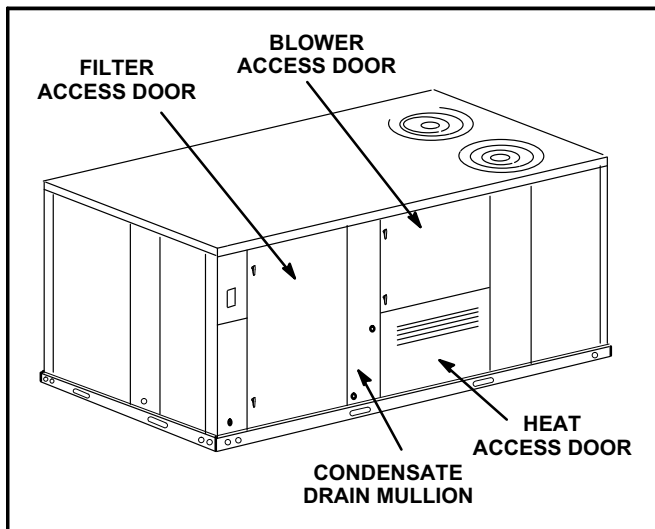

FIGURE 5
- 1- Open blower and heat access doors. See figure 5.